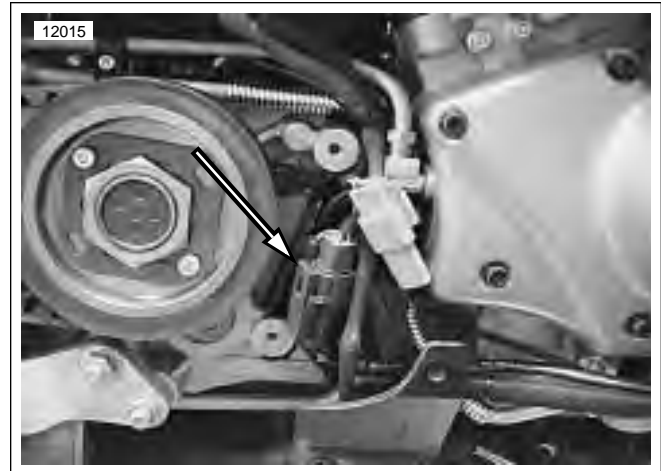

Figure 4-66. Cam Position Sensor Connector [14]
4. See Figure 4-66. Disconnect cam position sensor wiring at connector [14].